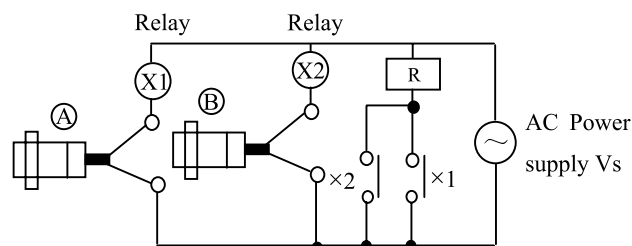

Figure 9
6. Sensor A parallel connects with sensor B, if object is approaching A, sensor A operates, the voltage between sensor A and sensor B is almost 10V. At this time, sensor B can't operate because voltage is too low. Only when sensor A does not operate, sensor B can operate. So if the proximity sensors are connected parallel, connect as Figure 9 (for AC proximity sensor).